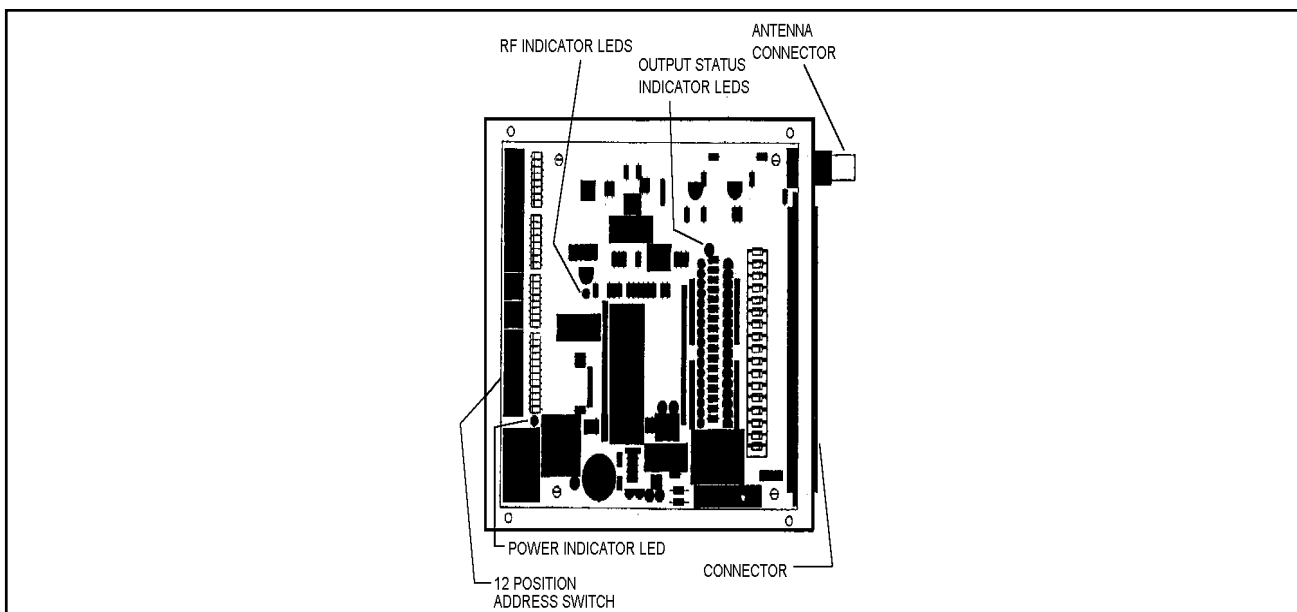

Figure 4-5 Receiver Printed Circuit Board
- Remove the cover on the receiver (**See Figure 4-5**).